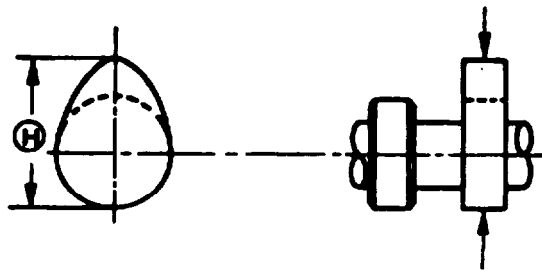

FIGURE 3-105. Cam Height
- c. Standard cam height is 1.60 in. (40.57 mm). Using a micrometer, measure cam height, refer to FIGURE 3-105. If cam height is less than limit of 1.58 in. (40.2 mm), replace camshaft.